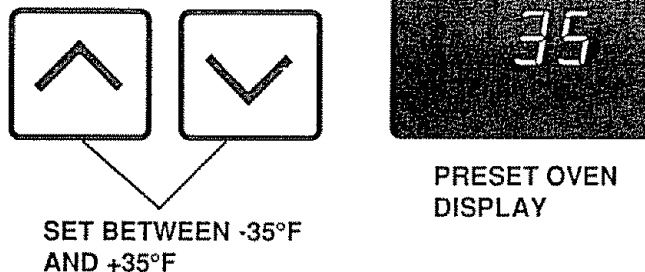

Fig. 3
4. The temperature can be adjusted up to +35°F hotter or -35°F cooler. Use  or  to select the temperature adjustment you want. See Fig. 3. The temperature you select is the new preset oven display.